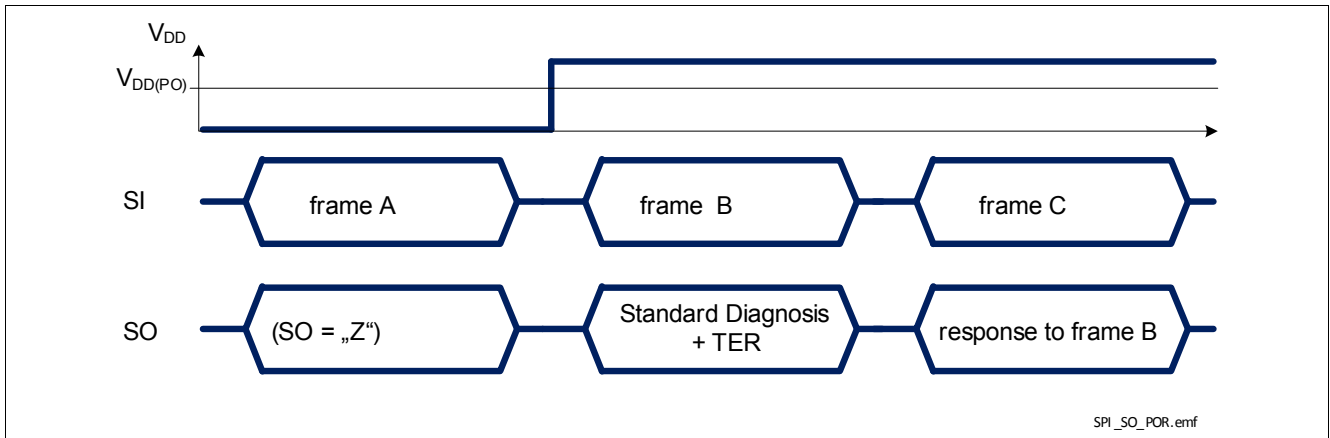

Figure 34 BTS56033-LBB response after coming out of Power-On reset at  $V_{DD}$
- when BTS56033-LBB logic supply comes out of Power-On reset condition, as shown in Figure 34